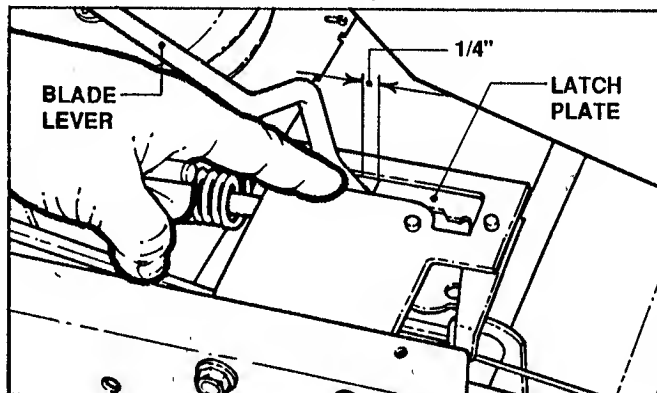

FIGURE 4.5
- (g) Depress blade pedal and measure the distance between front of blade lever and latch plate. The distance should be no greater than 1/4". See Figure 4.5.